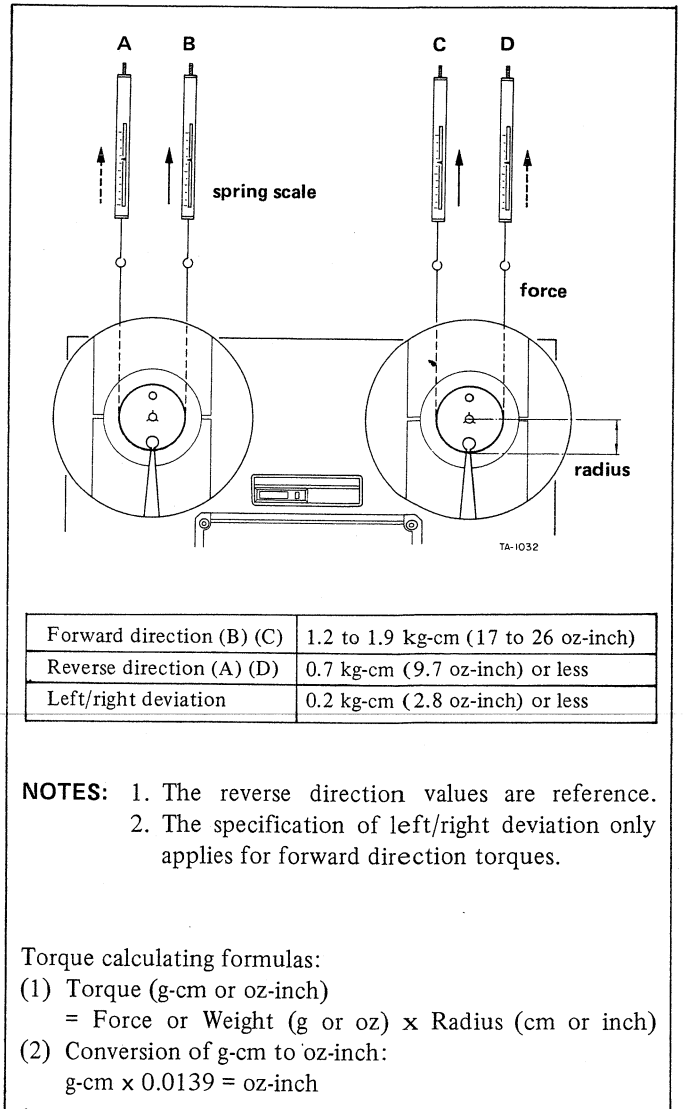

Fig. 6-3
3. Do steps 1 and 2 for each measuring condition, (A) through (D) in Fig. 6-3.
4. The values are as chart in Fig. 6-3.